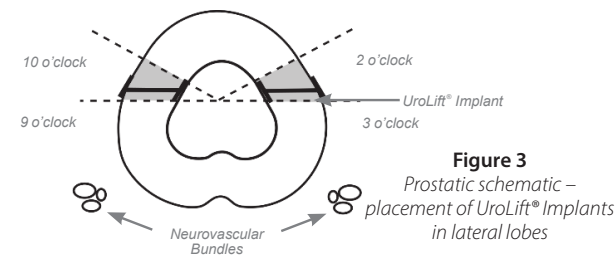

Figure 3
- 2.2.2 To avoid external prostatic structures (e.g. neurovascular bundles), position the Delivery Device tip in the anterior aspect of the prostate in either the 2-3 or 9-10 o'clock position (Figure 3). Orient the tip to ensure the needle deploys laterally (needle deploys in line with the Delivery Device handle).